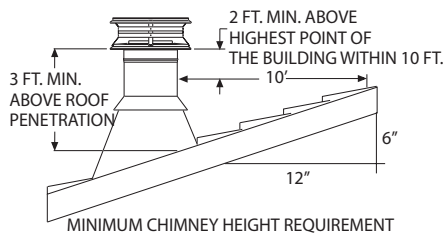

Figure 1
- Determine the minimum chimney height above the roof line. Building codes require a minimum of 3' above the roof penetration and at least 2' higher than any portion of a building within 10'. See figure 1. The termination cap is installed above that point. If the chimney extends 5' or more above the roof penetration an extended roof bracket is required. An additional roof bracket is needed every 5'.